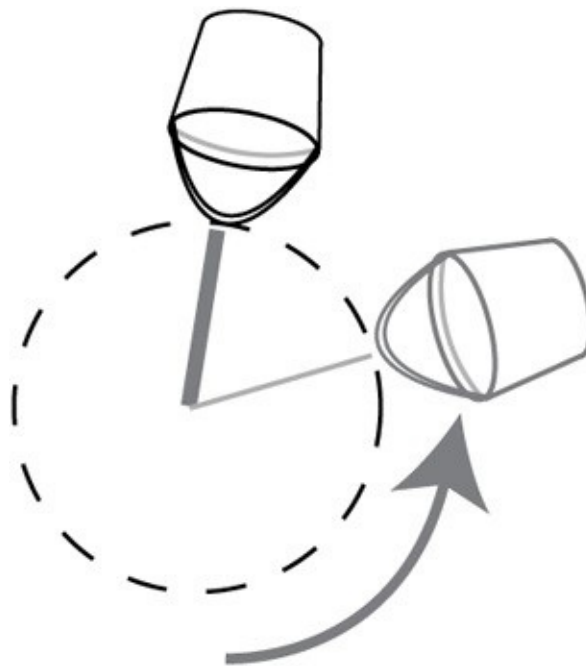

Figure 17-1 *Spinning a bucket filled with water over your head.*
3. Spin the bucket, as shown in Figure 17-1, and evaluate in terms of the predictions.